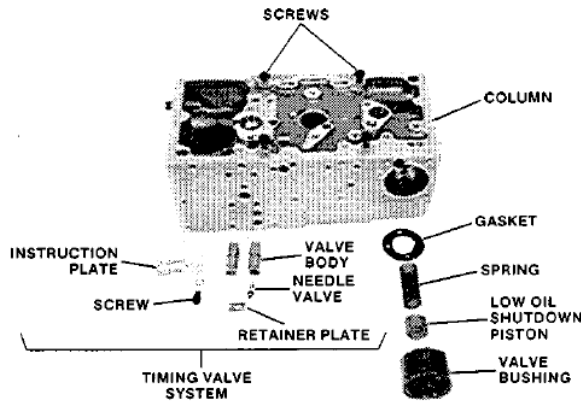

Figure 5-16. Low Lube Oil and Timing Valve Systems
16. Remove low-lube-oil valve bushing, piston, spring, and gasket (Figure 5-16).
- 18. Remove 4 screws. If water box is present, disconnect both tubes from column. Then separate column from power case (Figure 5-16).